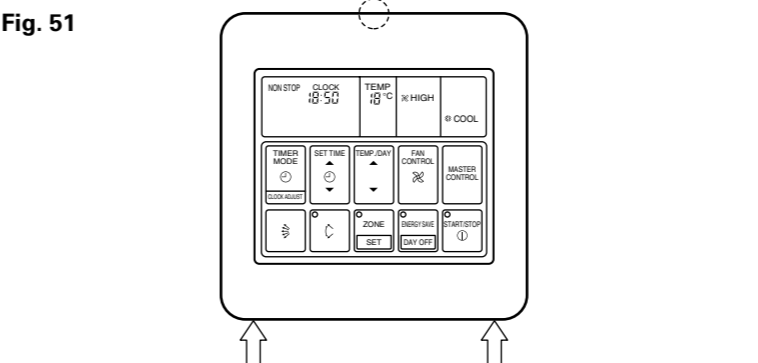

Fig. 52
- Connect the remote controller cord to the remote controller terminal board specified in (Fig. 52).
- Clamp the remote controller cord sheath with the binder (small) as shown in (Fig. 52).